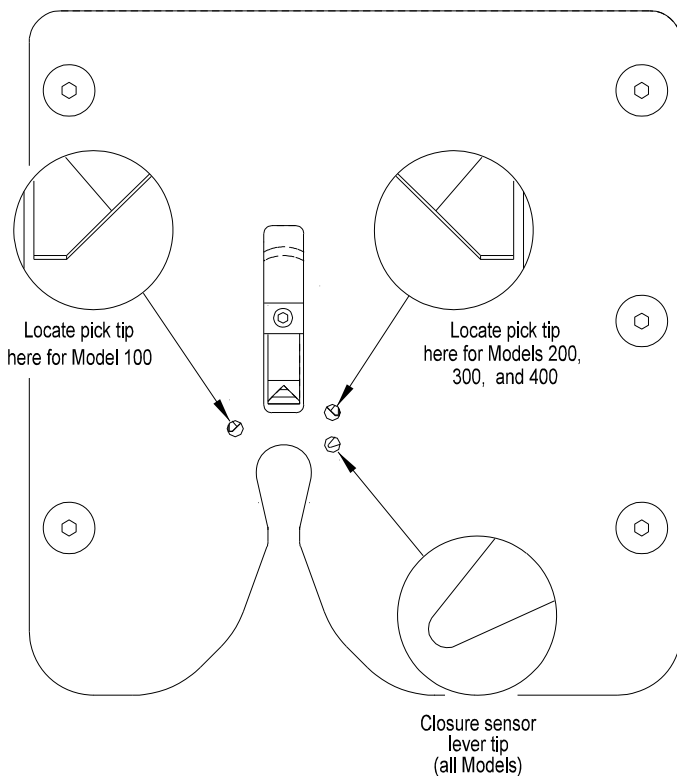

Figure 3.8
H. SENSOR LEVER STOP ADJUSTMENT (Figures 3.8 & 3.9):
4. Determine the correct inspection hole for the model for your closer (Figure 3.8). The tip of the pick should be visible in half of the inspection hole as shown. Reposition the pick if needed as follows:
7. Slide the motor assembly until the pick is in the proper position when viewed through the inspection hole (Figure 3.8).